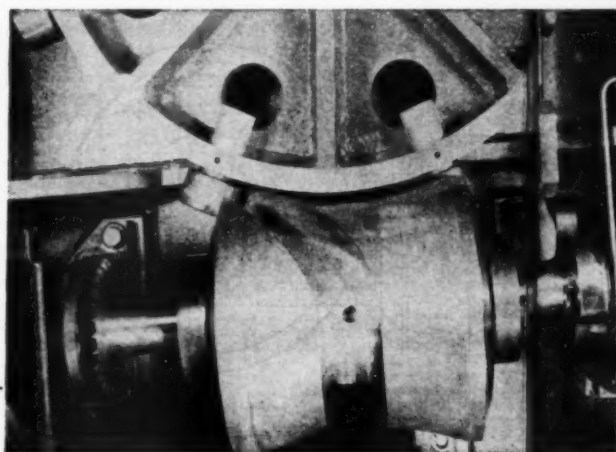

Fig. 11—Concave cam and roller follower.
If the shafts are skewed (nonintersecting) other combinations such as the concave cam and roller follower may be used, Fig. 11. Such a combination can be designed to impart any desired motion to the driven member, such as simple harmonic, cycloidal, constant acceleration and deceleration. The number of rollers on the follower, and
9. R. J. Jacobs—"Indexing with Concave Barrel Cams," *MACHINE DESIGN*, Feb. 1949, Pages 92-96. (Fig. 11)